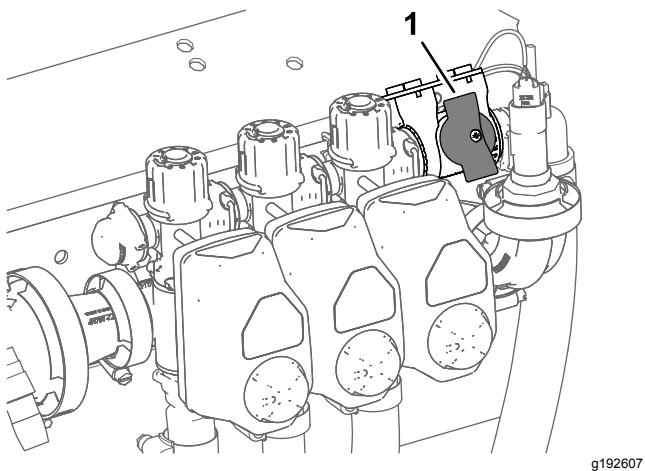

Figure 45
4. For machines operated in the application-rate mode, ensure that the knob for the section-bypass shutoff valve is in the closed position (Figure 45).
5. For machines operated in the application-rate mode, ensure that the section-bypass shutoff valve is closed (Figure 45).